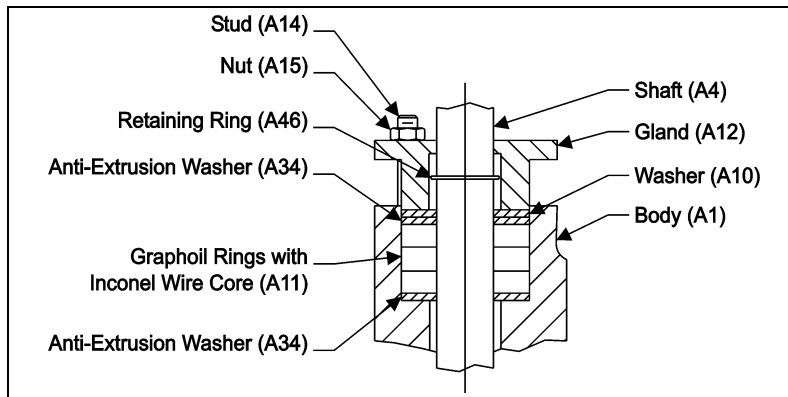

Figure 7 — Packing Option (G2)
- b. Place the new packing and anti-extrusion washers in the body, one ring at a time, in the configuration shown in Figure 7.